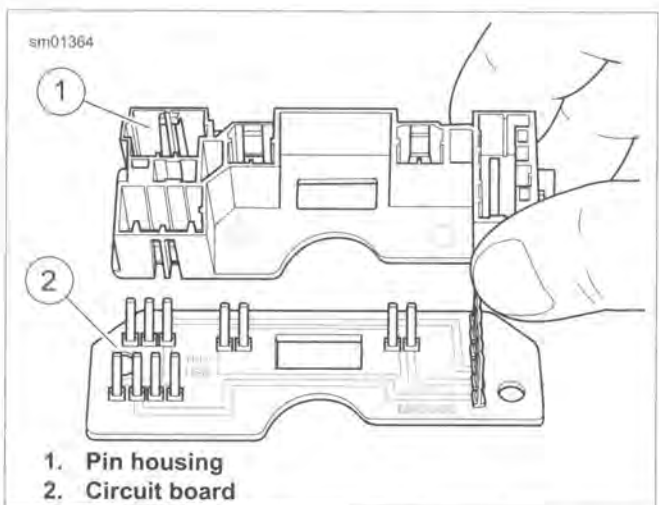

Figure 7-38. Pin Housing and Circuit Board
4. See Figure 7-38. Remove screw, pin housing (1) and circuit board (2) from base.
7. Attach circuit board (2) and pin housing (1) to base with screw. Circuit board snaps in on bottom.